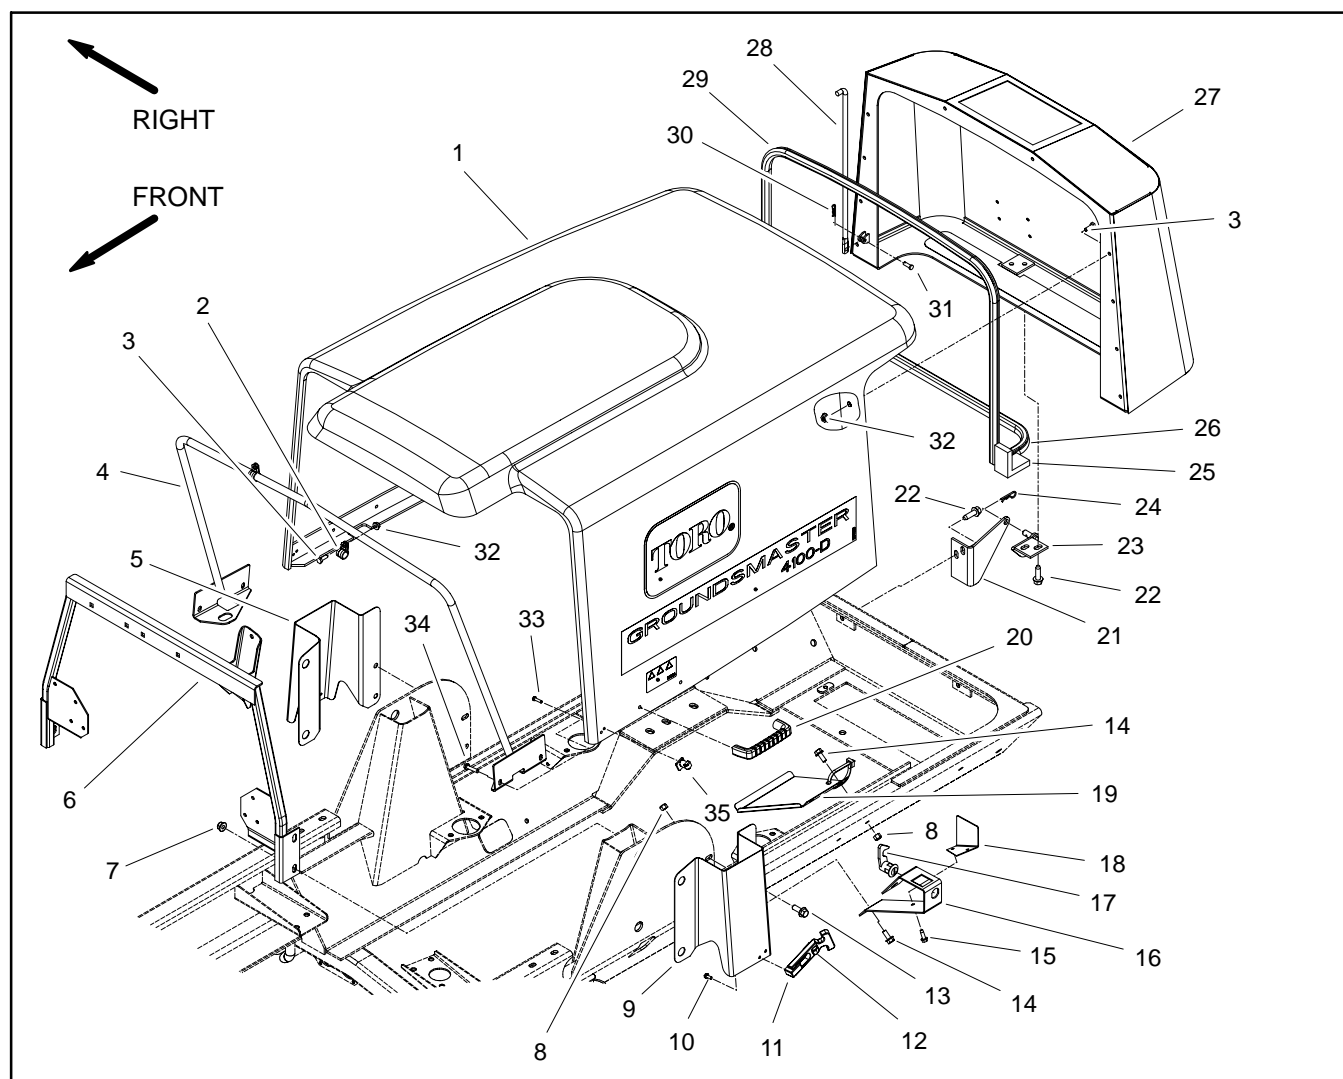

Figure 5
2. Remove hood using Figure 5 as a guide.
1. Install hood using Figure 5 as a guide.